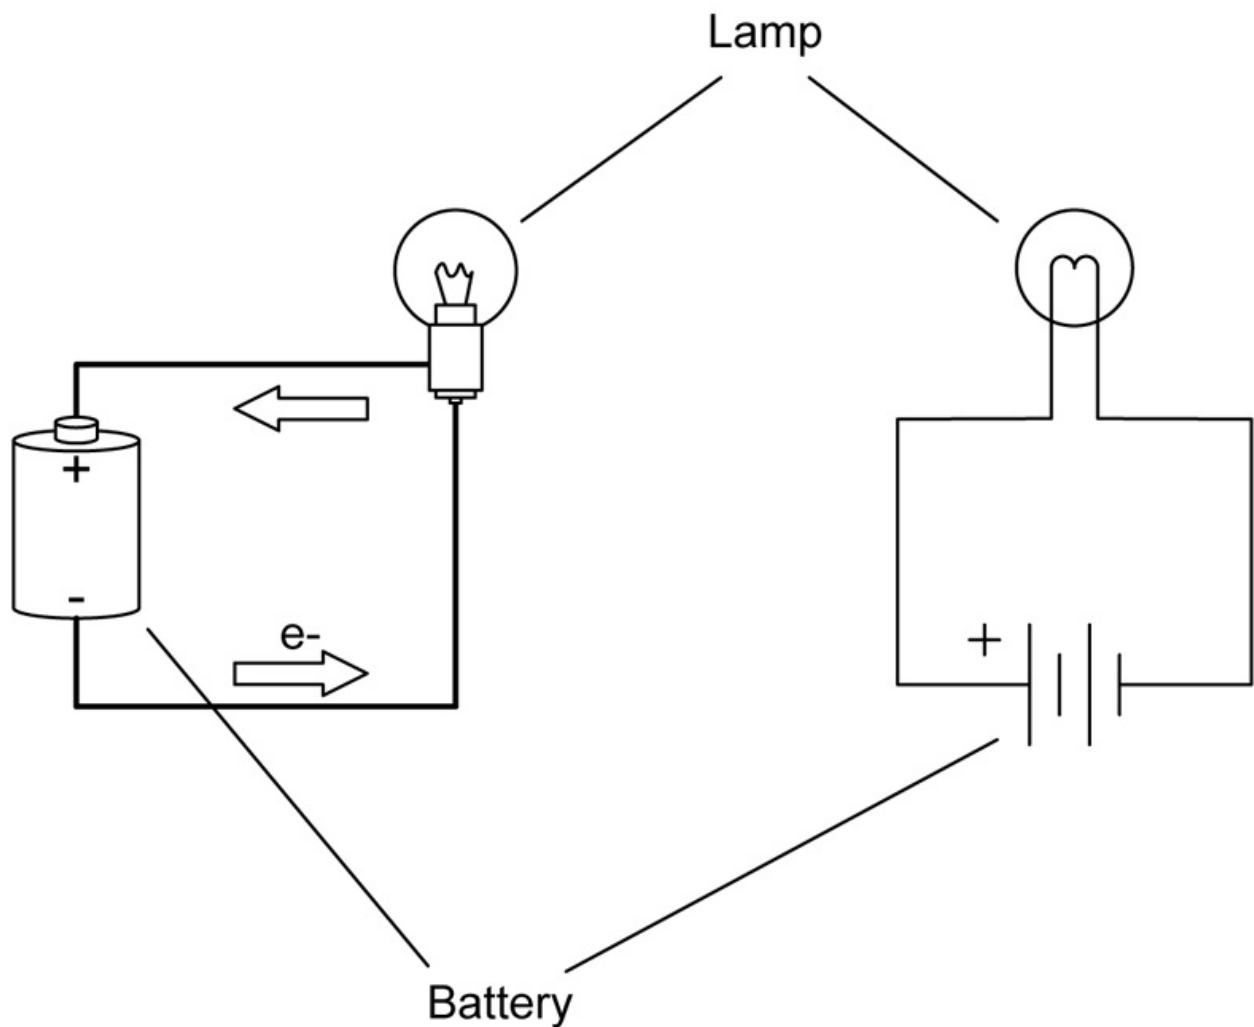

Figure 1-4. A simple DC circuit
Electric current flow (a physical phenomenon) is characterized by four fundamental quantities: voltage, current, resistance, and power. We'll use the simple circuit shown in Figure 1-4 as our baseline for the following discussion. Notice that the circuit is shown both in picture and schematic form. For more about schematic symbols, refer to Appendix B.
Current that flows in only one direction, as in **Figure 1-4**, is called *direct current* (DC). A common battery produces DC, as does the DC power supply in a typical computer system. Current that changes direction repeatedly is called *alternating current* (AC). AC is what comes out of a household wall socket (in the US, for example). It is also the type of current that drives the loudspeakers in a stereo.
By convention, DC is described as flowing from positive to ground (negative), whereas in reality, electrons flow from the negative terminal to the positive terminal of the power source. In Figure 1-4, the arrows show the electron flow. Basically, the discrepancy stems from an erroneous assumption made by Benjamin Franklin, who thought that electrons had a positive charge and flowed from positive to negative terminals. He guessed wrong, but we ended up with a convention that was already well ingrained by the time physicists figured out what was really going on. Hence we have conventional current flow and electron current flow. Although you should be aware of this discrepancy, from this point onward, we'll use conventional current flow, since that is what most of the electronics industry uses.
This simple equation is fundamental to electronics, and indeed it is often the only equation that you really need to get things going. In **Figure 1-4**, the circuit has only two components: a battery and a lamp. The lamp comprises what is called the *load* in the circuit, and it exhibits a resistance to current flow. Incandescent lamps have a resistance that varies according to temperature, but for our purposes we'll assume that the lamp has a resistance of 2 ohms when it is glowing brightly.
In the simple circuit shown in **Figure 1-4**, the flow of electrons through the filament in the lamp causes it to heat up to the point where it glows brightly (between 1,600 to 2,800 degrees C or so). The filament in the lamp gets hot because it has resistance, so current flows less easily through the filament than it does through the wires in the circuit.